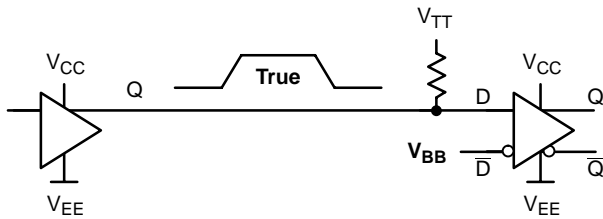

Figure 4. Standard SE Receivers with  $V_{BB}$
For a standard differential receiver with two input pins – D and  $\bar{D}$  – only one of two inputs is suitably selected to receive the signal while the non-driven input must be biased to a (DC) reference voltage,  $V_{BB}$  (see Figure 4).